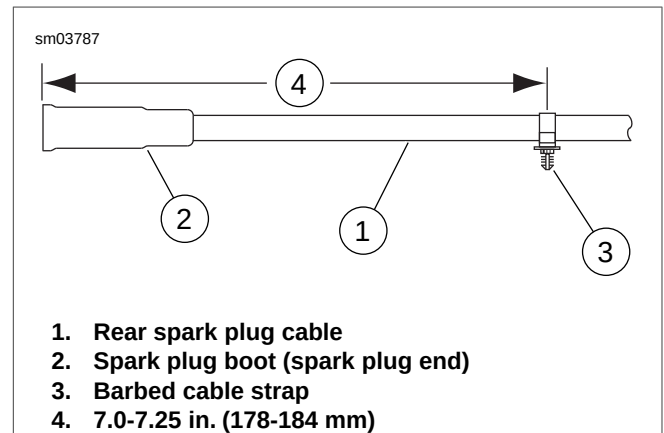

Figure 6-46. Rear Spark Plug Cable and Cable Strap (XL Models Only)
5. **XL models only:** See Figure 6-46. Install **new** barbed cable strap (3) onto spark plug cable (1), 7.0-7.25 in. (178-184 mm) from tip of spark plug cable boot (2), orienting cable strap so that spark plug cable is above mounting boss on caddy latch clip when barbed prong on cable strap is inserted in hole in boss. Press cable strap barbed prong firmly into hole in caddy latch clip mounting boss.